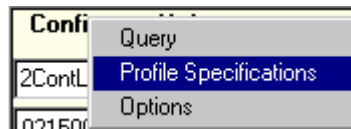

Figure 14. Profile Specifications Context Menu
1. Choose **Configure>Profile Specifications** from the **Menu Bar**, Figure 14.